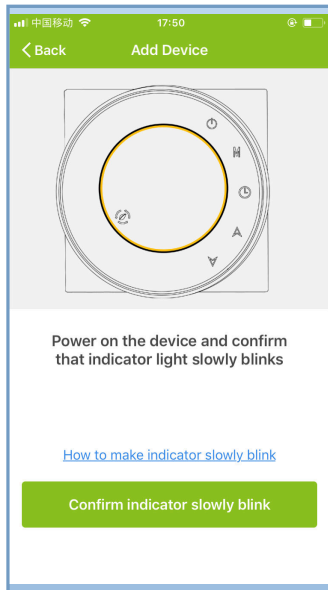
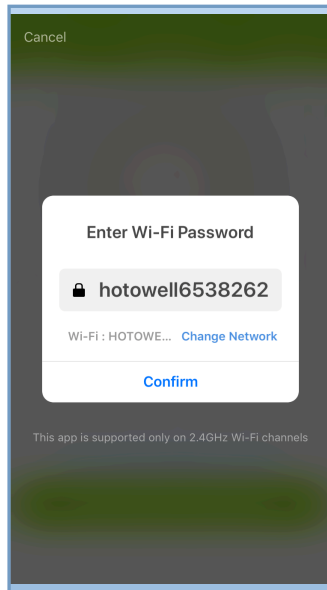
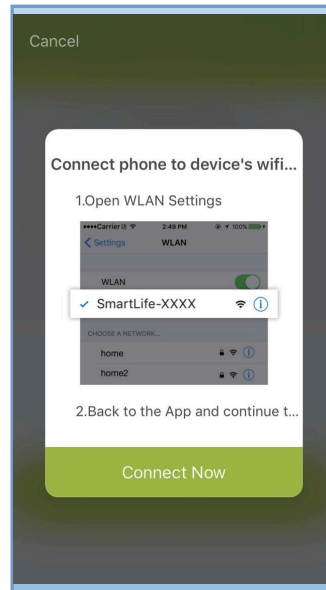

fig 4.1
fig 4.2
fig 4.3
- press and hold the arrow icon ▼ for 8 sec again, the icon  will flash once per 3 sec.(fig 4.1)
- Click “Confirm indicator slowly blink” (fig 4.1) then select your network and back to your app to enter the password of your wireless router (fig 4.2) and confirm. The app will go into the page(fig 4.3)
- Press “Connect now” to select the wifi signal Smart life-XXXX from the thermostat(fig 4.3).